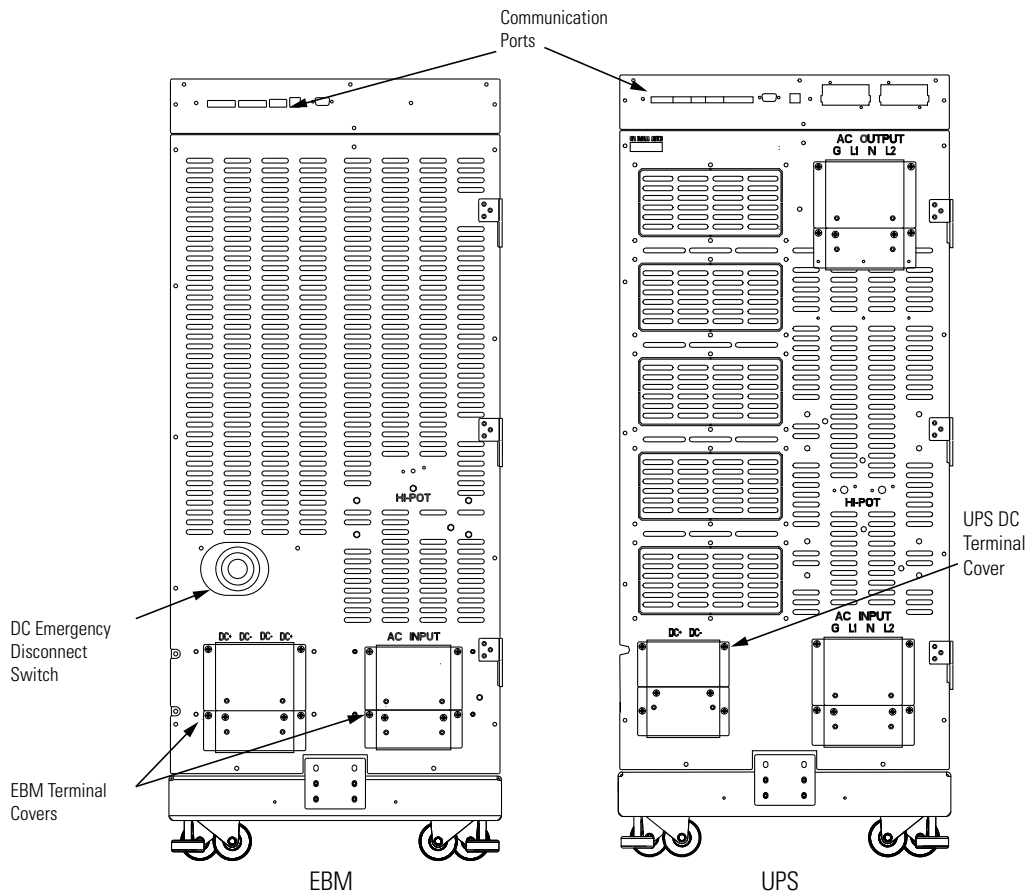

Figure 36. UPS Connections
4. Push in the EBM DC emergency disconnect switch on the rear EBM panel and turn the switch lockout key (see Figure 36).